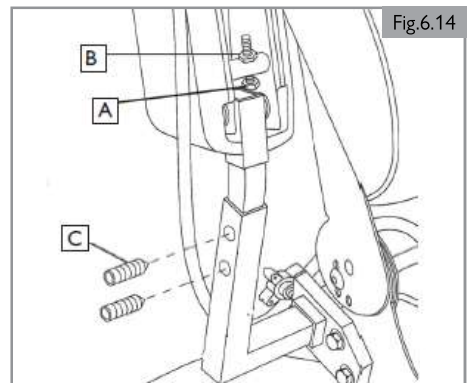
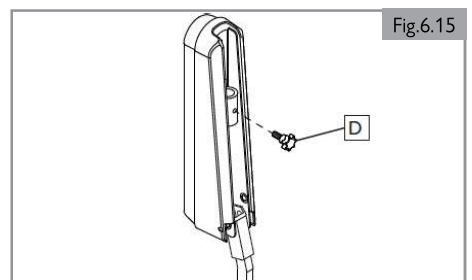

Fig.6.14
Fig.6.15
1. Lift the armrest straight up so that it is perpendicular to the floor. Raise or lower the armrest to the desired height. (Fig. 6.14)
2. Loosen the jam nut (A).
3. Turn the adjusting screw (B) to raise or lower the front of the armrest.
4. Tighten the jam nut (A) to lock the adjusting screw into place.
5. Ensure that the armrest knob (D) is hand tight when finished. (Fig. 6.15)